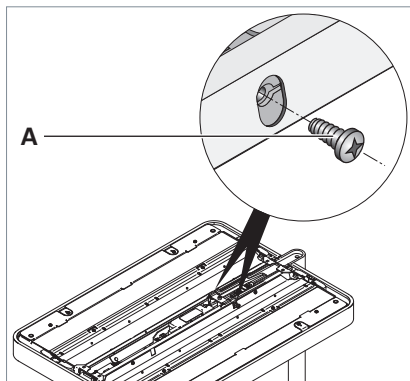

Fig. 17: Removing the fastening elements.
- Unscrew both fastening screws **A**, see Fig. 17.